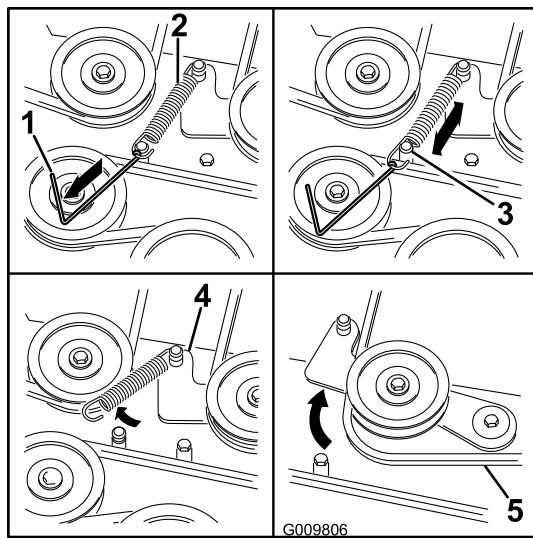

Figure 74
7. Using a spring removal tool, (Toro part no. 92-5771), remove the idler spring from the deck post to remove tension on the idler pulley (Figure 74).
10. Install the new belt around the mower pulleys and the clutch pulley under the engine (Figure 74).
11. Using a spring removal tool, (Toro part no. 92-5771), install the idler spring over the deck post and placing tension on the idler pulley and mower belt (Figure 74).